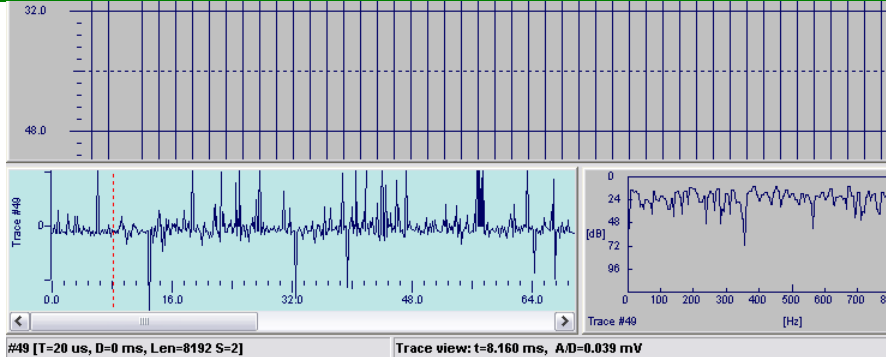

Figure 22 The red dotted reference time marker
- Position a reference time marker (Figure 22)